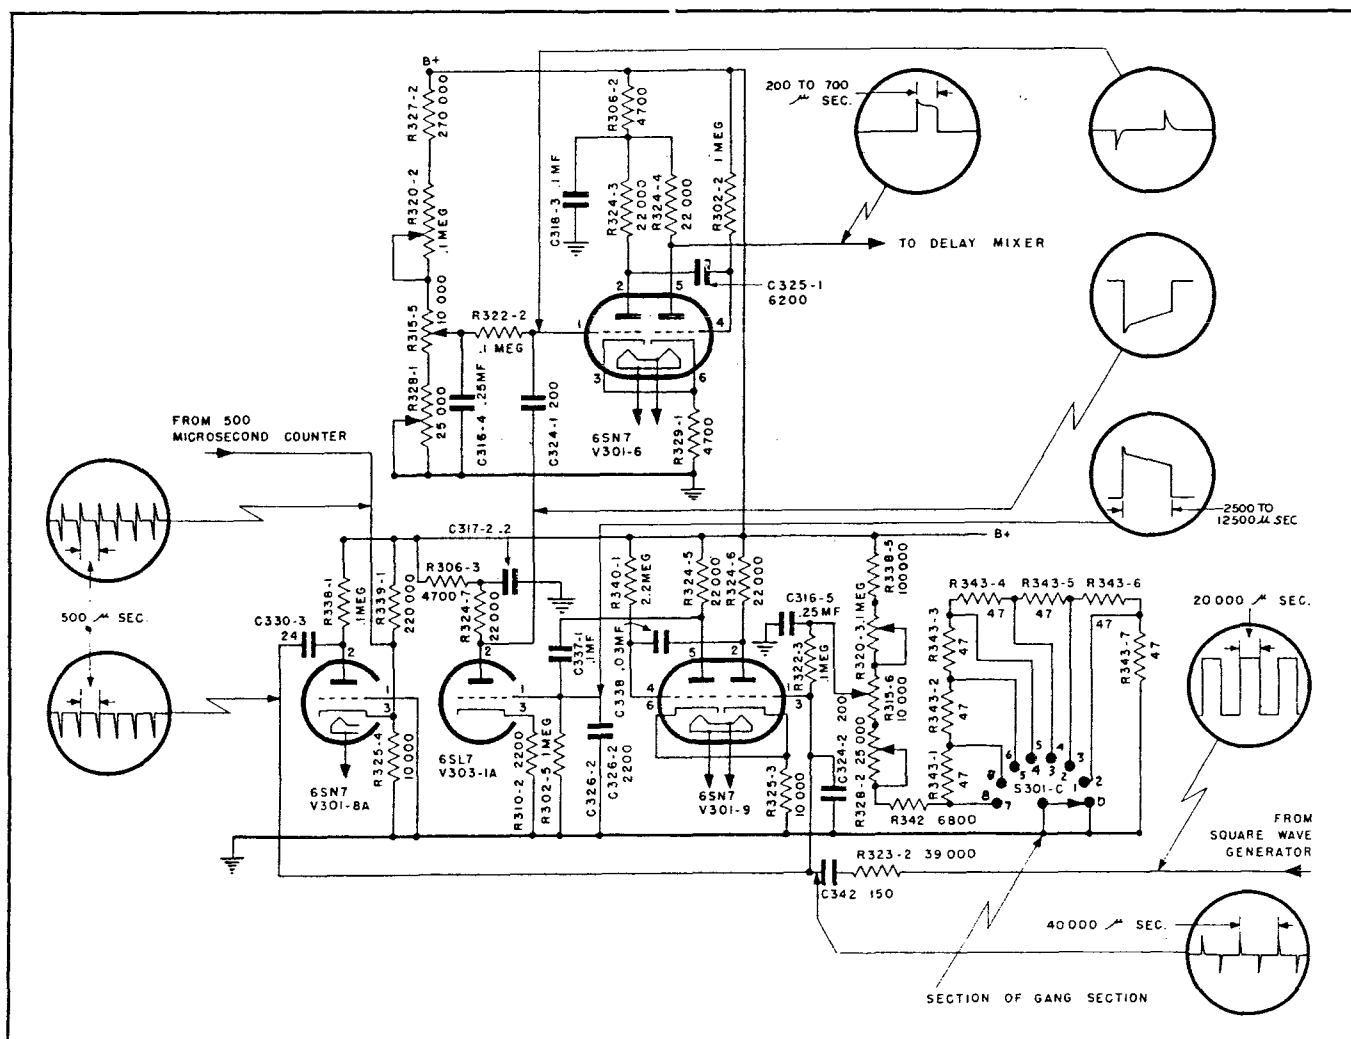

Figure 4-20. B-Delay Multivibrators
The B-course delay multivibrator, V-301-9, operates in the same manner as the A-delay multivibrator except that, (1) the initiating pulse for the B-delay must come at the beginning of the B-trace, and therefore is obtained by differentiating the output of the square-wave generator. However, this output is taken from the opposite plate to that which initiates the action of the A-delay multivibrator; and (2) the B-delay output pulse must always end abruptly at a 500-microsecond marker. (See fig. 4-20.) A negative pulse for this purpose is formed by the action of V-301-8A. The grid of this tube is biased near plate current cut-off. A pulse developed in the 500-microsecond counter oscillator is fed to the cathode of this tube so that its negative
The "FINE" delay control R-315-5 is in the grid circuit of the B-fine delay multivibrator, V-301-6, V-301-7. Potentiometers R-328-2 and R-320-3, marked "ADJ. 0" and "ADJ. 10,000" respectively, set the end points of the voltage range of the "COARSE" control. Potentiometers R-328-1 and R-320-2, marked "ADJ. 200" and "ADJ. 700" respectively, adjust the end points of voltage variation available by means of the "FINE" control. Figure 4-20 shows that the initiating pulse for this multivibrator delay circuit comes from the B-course delay multivibrator; it is not necessary to adjust its grid